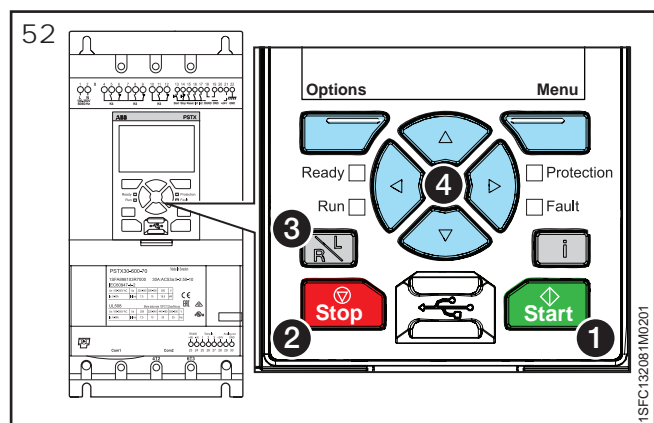

Figure 52: Local control
The start key is the start switch for the softstarter. By pressing this key the motor will start and operate according to the set parameters. **See ① in Figure 52.**
The stop key is the stop switch for the softstarter. By pressing this key the motor will stop according to set parameters. It is possible to press stop command during the start ramp if required. **See ② in Figure 52.**
R/L-key stands for Remote or Local control. This key gives you the option to control the softstarter remote from digital input, fieldbus or local from the HMI. **See ③ in Figure 52.**